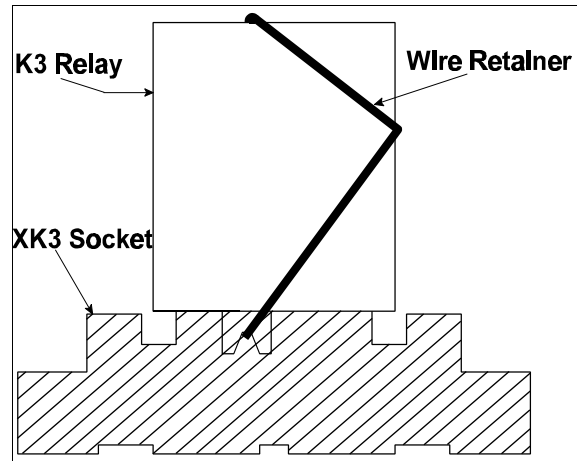

Figure 1 XK3 - Side View
6. Install the K3 relay onto the XK3 socket. Attach the wire retainer to the XK3 socket and over the K3 relay. Refer to figure 1.